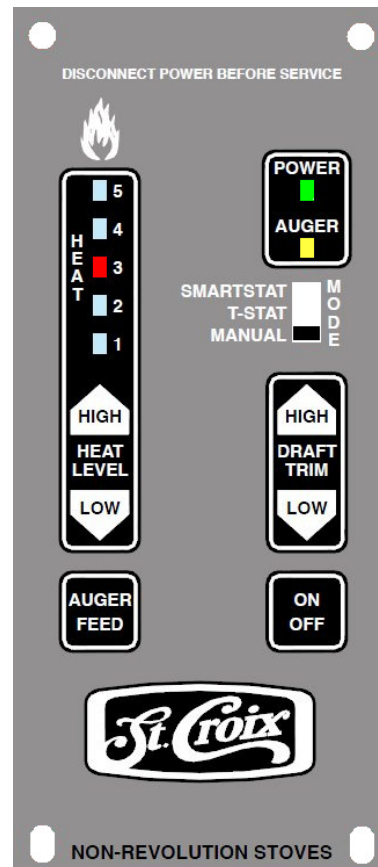

Figure 18
A closer look at the Control Board to the right in figure 18 will explain how the board works.
3. Push the On/Off button on the control board. (*See figure 18 on page 25*)